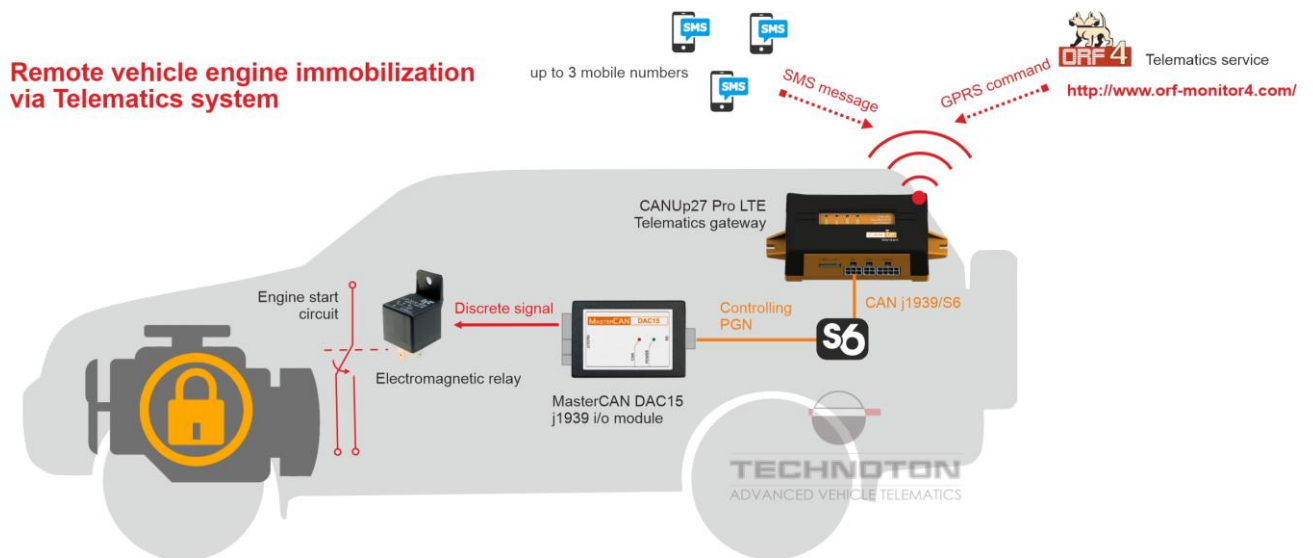

Figure 23 — Principle of operation of engine remote immobilization system
**Remote control of additional equipment is employed in the Vehicle engine immobilization system** (see the document Subtask “Engine immobilization system”. Configuration and connection instructions). For this purpose, an electromagnetic relay with normally closed contacts is mounted into the break in the electric circuits controlling the engine start or the fuel system. The relay contacts are opened by an output discrete signal from MasterCAN DAC 15 digital to analog converter; the signal is generated upon receiving a controlling CAN message from CANUp27 Pro LTE Telematics gateway connected to the converter via CAN j1939/S6 interface. The gateway generates a controlling message after receiving the respective GPRS command from ORF 4 / ORF 5 Telematics service or after receiving a special SMS message from up to 3 authorized telephone numbers (see figure 23).